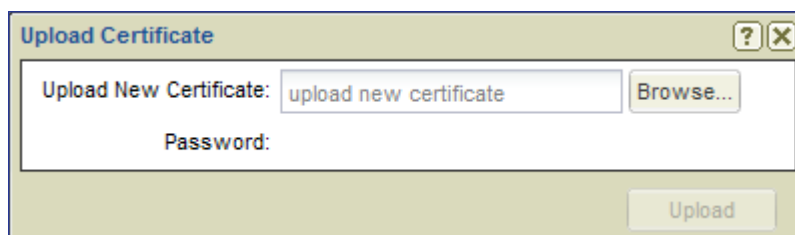

Figure 20. Upload Certificate Dialog
2. The **Upload Certificate** dialog opens (see **figure 20**).